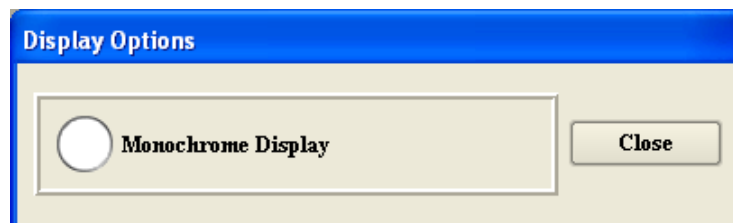

Figure 3-22: Display Options window
1. Launch the GenWare® (PC) utility software.
2. Select the **Displ** button from the toolbar on the top of the screen. This will open the **Display Options** window. Refer to Figure 3-22.